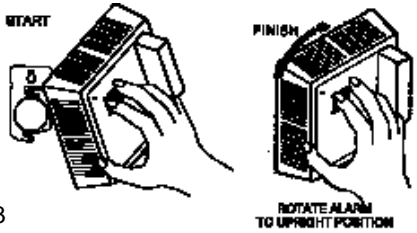

Figure 13
4. Mount the alarm to the bracket as illustrated in Figure 13.